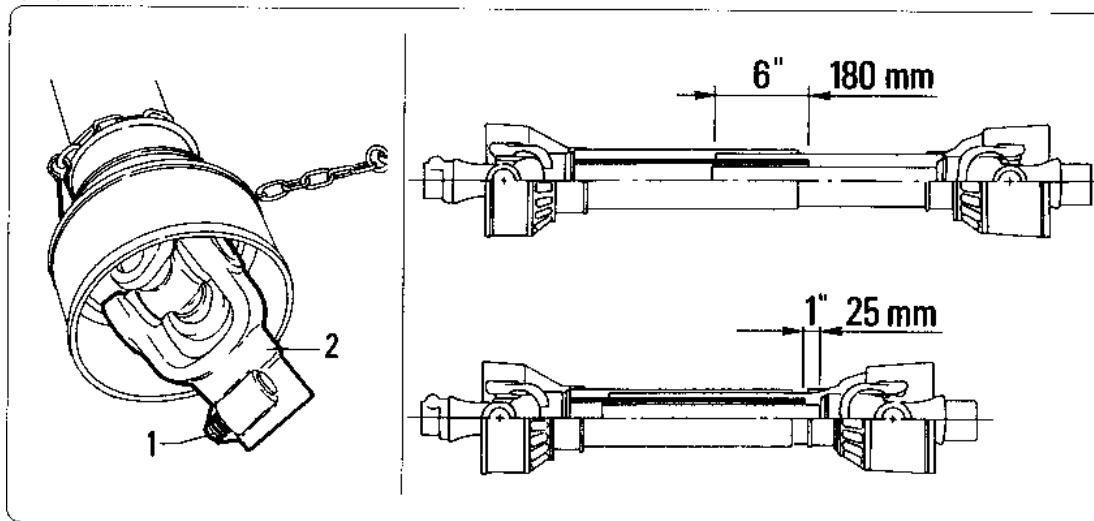

fig. 4.2.3
- Check that the driveline is the correct length fig. 4.2.3.
Driveline travel must still be about 25 mm (1 inch) in the maximum coupling position. See fig. 4.2.3.
To achieve this condition, completely insert the pins and safety bolts "1" fig. 4.2.3 into the relative grooves in the pto shafts on both the tractor and machine sides.